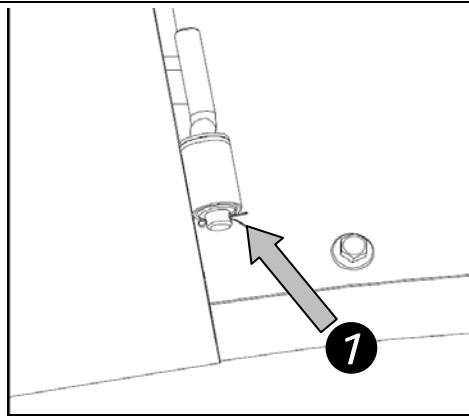

Fig.9
3. Tight the pivot shaft by two clips ①(Fig.9).